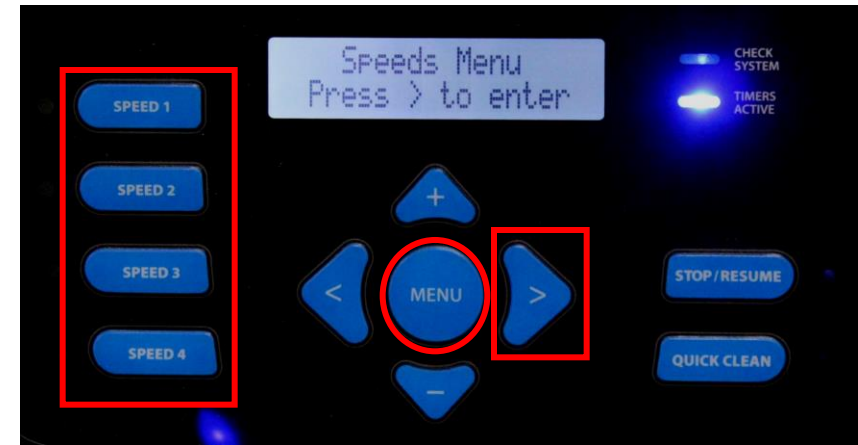

Figure 49
1. Press the  button until Speeds Menu appears (fig 49). There are four (4) Speed buttons that can be set. Press the  button to enter Speeds Menu.